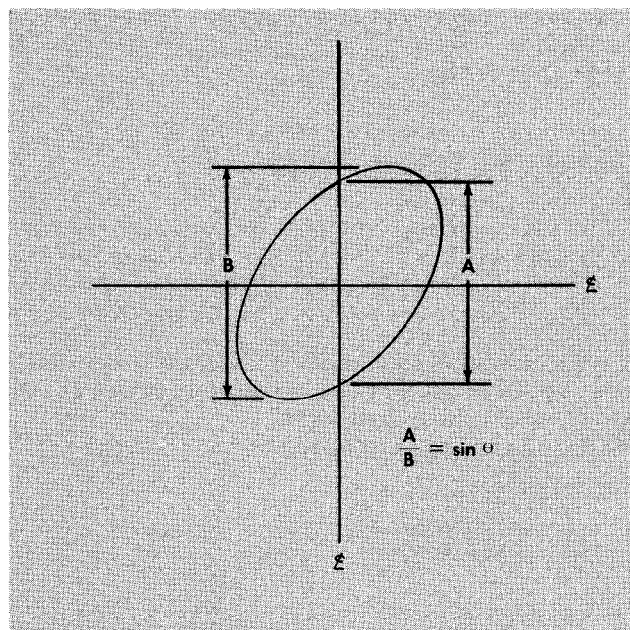

Fig. 5. X-Y method of calculating phase difference ( $\theta$ ) between two sine waves.
5. Measure the distances A and B on the display as shown in Fig. 5. A/B is equal to the sine of the phase difference between the two signals. (see Table 1, page 11).